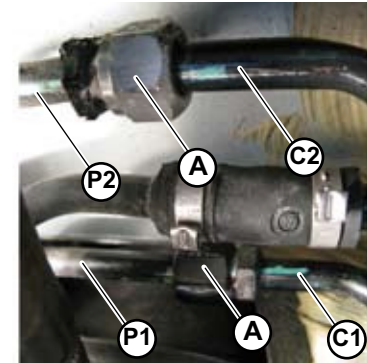

Fig.22
1. To disconnect the **C1** central delivery pipe connections and the **C2** central return pipe connections from the **P1** rear delivery pipes and **P2** rear return pipes, unscrew the respective nuts (**A-Fig.22**).